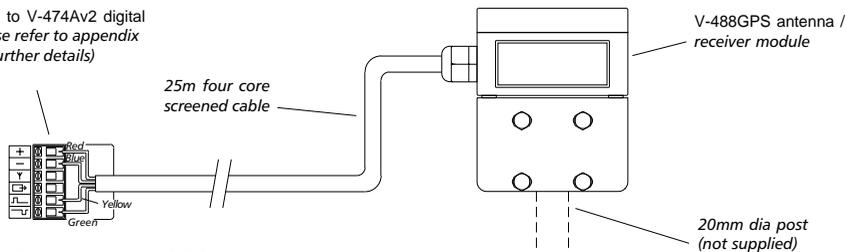

figure 3 - V-488GPS receiver system connections
- 2 The V-488GPS should be connected to the V-470A/V-474A v2 series time zone display using the captive 25 metre four core cable supplied. For distances of up to 50 metres the length can be extended by adding an additional length of 7/0.2 cable. For greater distances, up to a maximum of 200m, 16/0.2 (0.5mm²) cable should be used. The cable should be connected to the 6 way terminal block on the rear of the V-470A/V-474A v2 series time zone display as shown in figure 3. The cable screen should be connected to the EMC ground connection on the 6 way terminal block.